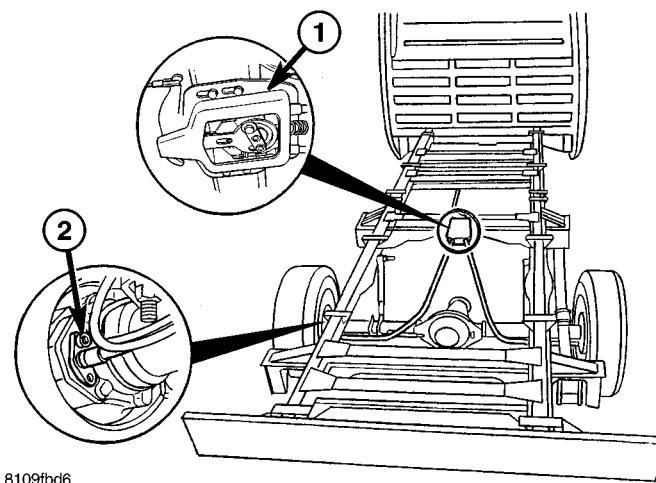

Fig. 31 REAR PARK BRAKE CABLE REMOVE / INSTALL
- (1) Raise and support the vehicle.
- (2) Remove the rear tires.
- (3) Remove the park brake shoes.
- (4) Remove the park brake cables from the shoe (Fig. 31).
(5) Remove all the connections on the hand brake cable (Fig. 31).
(6) Remove the park brake cable lock (Fig. 31). **Observe the installed position of the brake cable lock for reference on installation.**
(7) Remove the hand brake cable from the anchor plate (Fig. 31).
- (1) Install the hand brake cable to the anchor plate (Fig. 31).
- (2) Install the park brake cable lock (Fig. 31).
- (3) Install all connections on the hardware cable (Fig. 31).
- (4) Install the park brake cables to the shoe (Fig. 31).
- (5) Install the park brake shoes.
- (6) Install the rear wheels.
- (7) Adjust the park brakes.
- (8) Lower the vehicle.